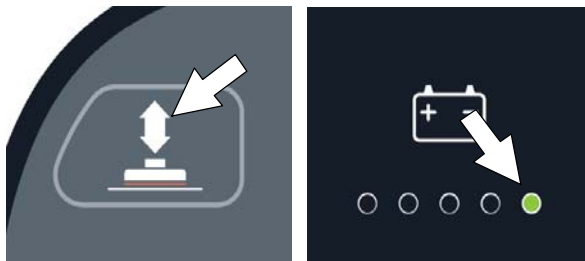

FIG. 152
1. Park the machine on a level surface and turn the key to off (O) position.
2. Press and hold the brush pressure button while turning the key on. Release button when the far right battery discharge indicator LED turns on (Figure 152).